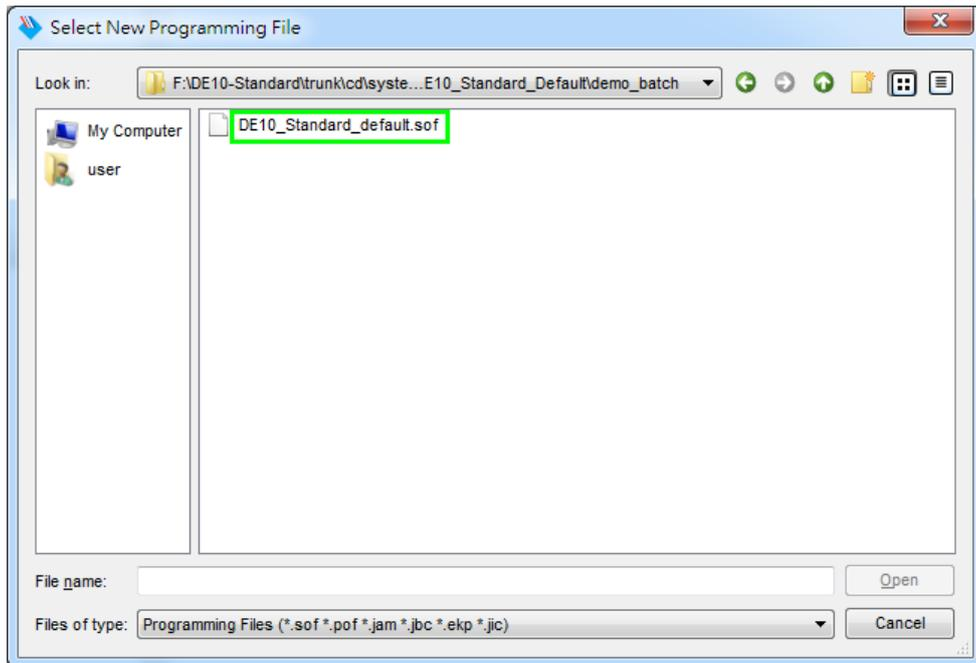

Figure 3-7 Select the .sof file to be programmed into the FPGA device
- Select the .sof file to be programmed, as shown in **Figure 3-7**.